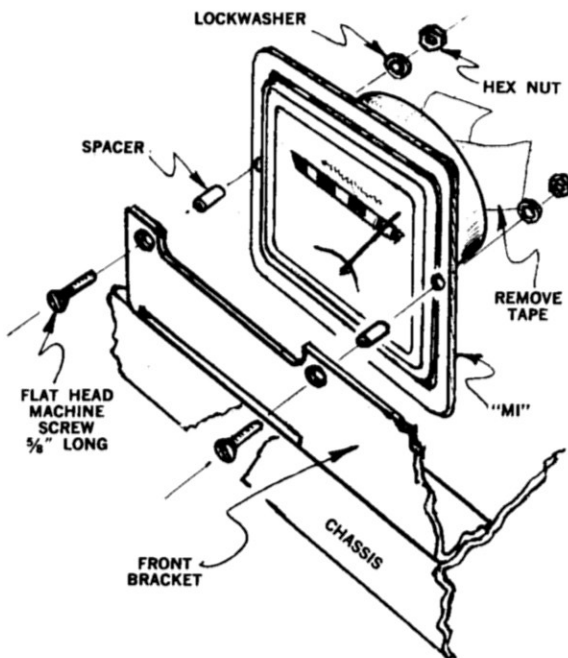

FIGURE 6
- A-1-7.** Mount the meter (M1) as shown in Figure 6. Use 2 tubular brass spacers, 2 flat-head machine screws, 2 lockwashers, and 2 nuts. After mounting the meter, remove the strips of tape from the back of the meter.